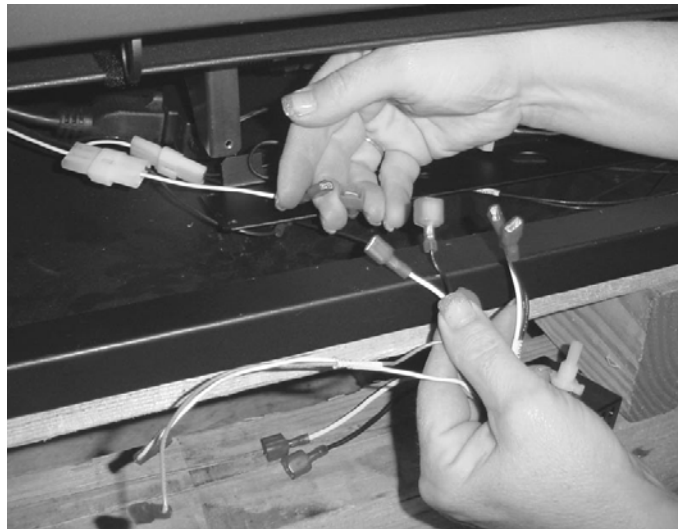

Figure 4
- 5 Connect the wires labeled LIGHT CONTROL on the Switch Box wiring harness to the accent light wires on the fireplace (see Figure 4). If using an optional blower, connect wires labeled FAN CONTROL on the Switch Box wiring harness to the blower wires on the fireplace.